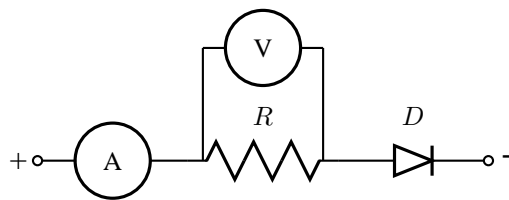
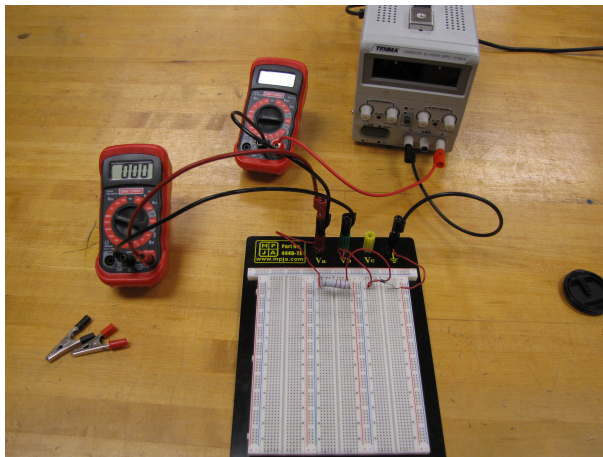

Figure 8: A schematic of the circuit for measuring voltages and currents of the resistor.
Figure 9: The circuit corresponding to the schematic in in Fig. 8 assembled on the breadboard.
6. Connect the voltmeter in parallel with the resistor as shown in Fig. 8. The circuit, as assembled is shown in Fig. 9. Obtain five different voltage and current readings for the resistor. The voltage readings should range between 0 and approximately 2.50 V volts. Record your data in Table 1.